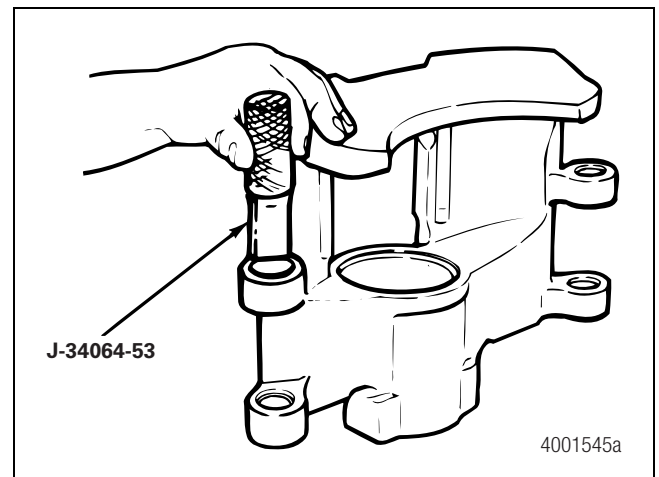

Figure 4.2
- Use a plug gauge (J-34064-53) to check for bushing wear. When the gauge fits into the bushing, the bushing is worn and must be replaced. Figure 4.2. Refer to the procedure in this section. To obtain the plug gauge, contact SPX Kent-Moore at 800-328-6657.